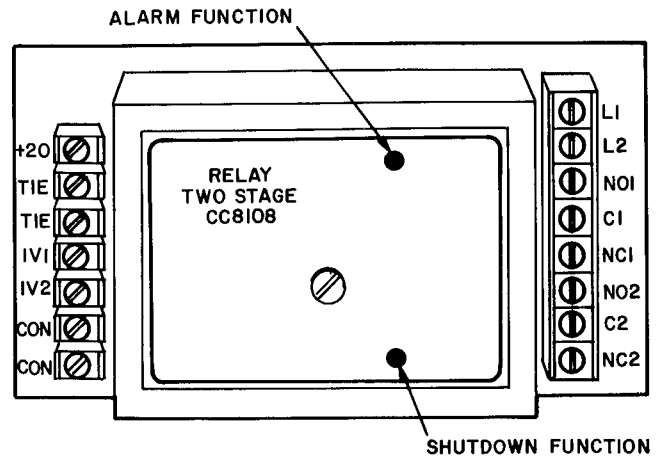

Fig. 9 — Alarm and Shutdown Functions
4. There are 2 Phillips-head slot adjusters located one on top of the other. The top adjusting slot is for the alarm function and the bottom is for the shutdown function. See Fig. 9.
3. There are 2 Phillips-head slot adjusters located one on top of the other. The top adjusting slot is for the alarm function and the bottom is for the shutdown function. See Fig. 9.